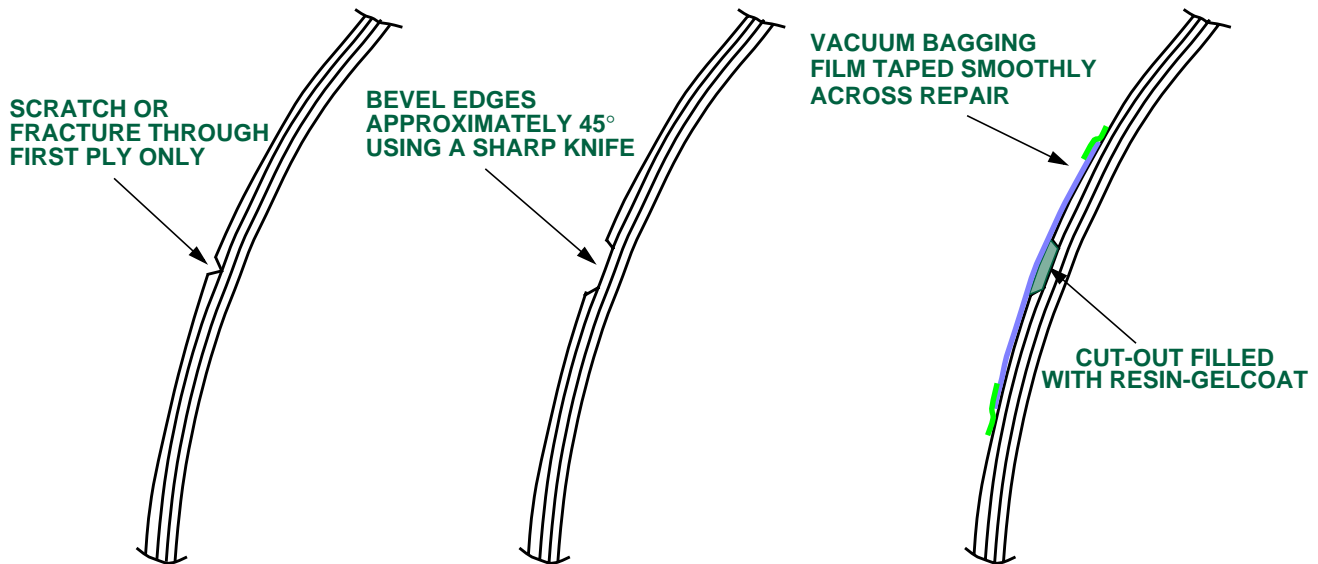

FIGURE 1 - EPOXY RESIN-GELCOAT REPAIR OF DEEP SCRATCHES AND PARTIAL FRACTURES
5.2.3.1 Repair deep scratches and partial fractures as follows (see Figure 1):